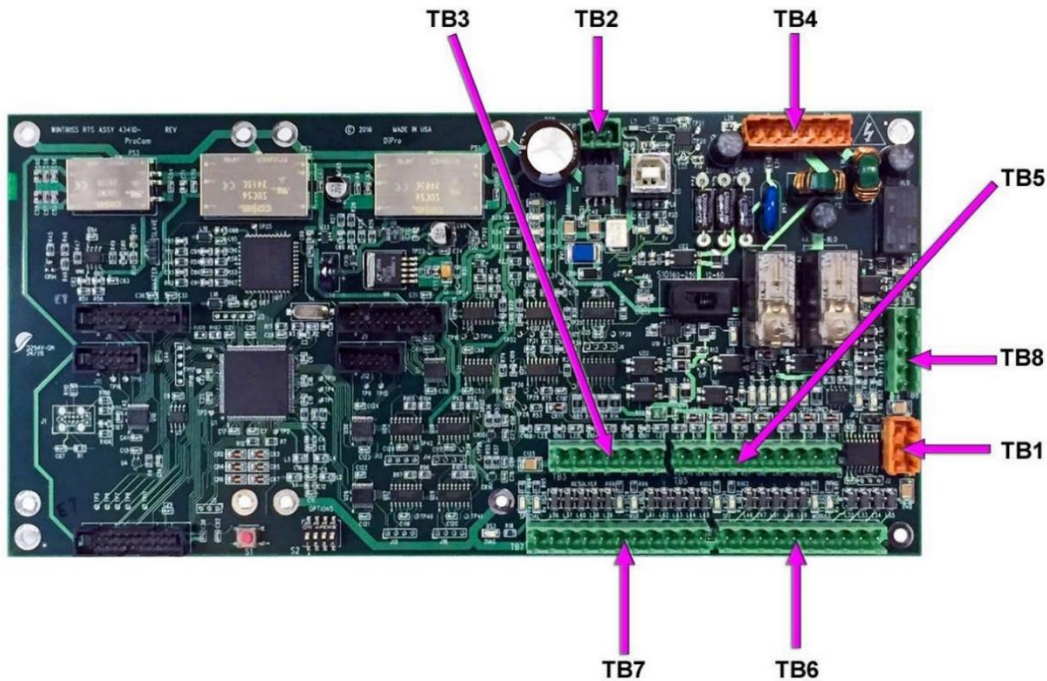

Figure 2-6. Location of Terminal Blocks TB1 through TB8
3. Find the resolver connector TB-3 on the SmartPAC PRO board (see Figure 2-6, page 56).